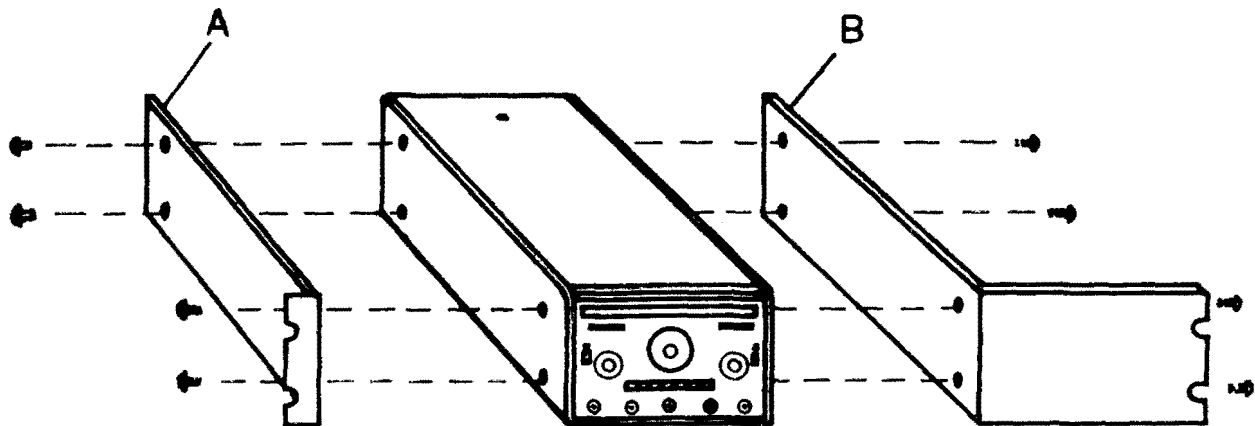

Figure 2-1. K-103 Rack Mounting
- c. Rack Mount Kit – K103. Mounts single instruments in a 5-1/4 inch space. See Figure 2-1.
2.1.4 K-103, Rack Mounting Kit (Refer to Figure 2-1)